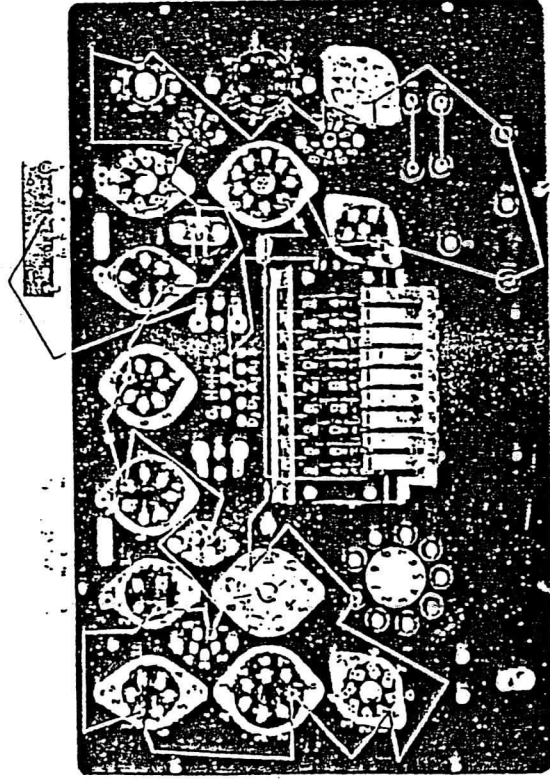

FIG. 14.
31. The Valve Holder Panel is connected electrically to the control panel by means of two 5-way side-by-side cables. One of these cables embodies two thicker sections (16/012") for 11+ and 11- leads. Connections to tag boards on either unit are shown in Fig. 14.
32. The wiring of the valve holders on the panel is in the form of nine separate loops, all pins 1 comprising a loop and linking in roller 1 of the ROLLER SELECTOR switch. This form of loop connection is used likewise for pins 2-9, all nine circuits approximating in length and following a similar route around the panel. These loops are further loaded with heads of ferroxcube which sufficiently damp the loop to prevent the valve under test breaking into parasitic oscillation. A diagrammatic layout is shown in Fig. 14. Ferroxcube is also used on leads feeding the SELECTOR SWITCH, as a precaution against L.F. oscillation. Where it is necessary to replace valve holders, these, with the exception of the 18H, are fitted to the panel with nuts and bolts, and are, thus, easily removable. Care should be taken to replace all wiring in its original position.